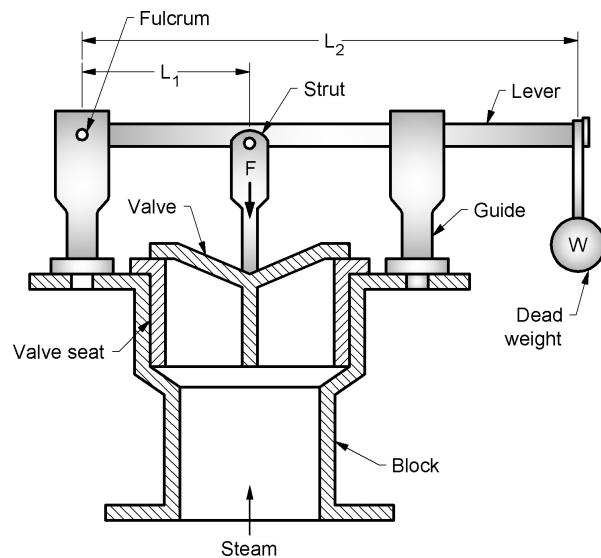

Fig. 2.8 Lever loaded valve
- Fig. 2.8 shows schematic diagram of lever loaded safety valve.
- One end of the lever is held by fulcrum and other end carries weight 'W' as shown in Fig. 2.8.